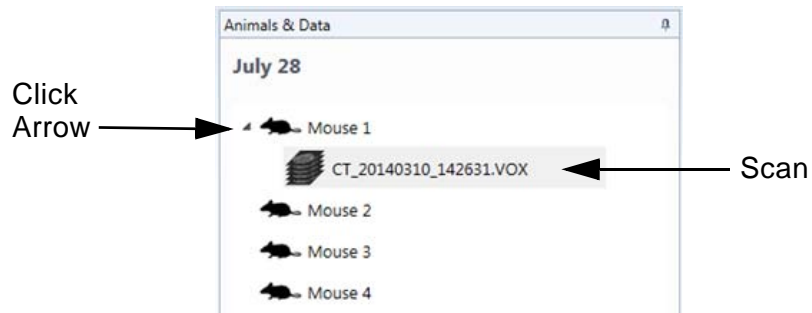

Figure 29. VOX File Associated with Mouse 1
- 7 Click the arrow to view the scan name associated with the animal. See Figure 29.